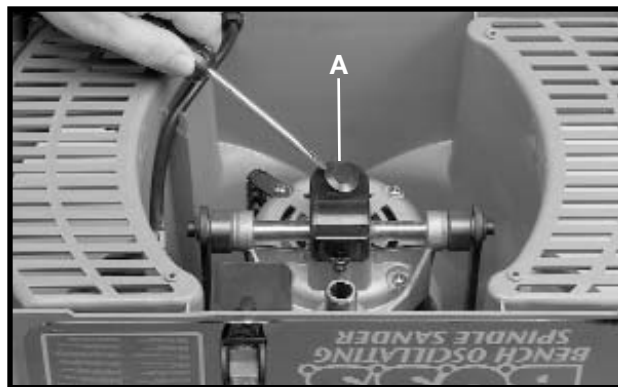

Fig. 5
2. Use a flat head screwdriver or similar device to remove the plug (A) Fig. 5, from the bottom of the machine to gain access to socket head screw (not shown).
6. Install plug (A) Fig. 5 that was removed in **STEP 2**.